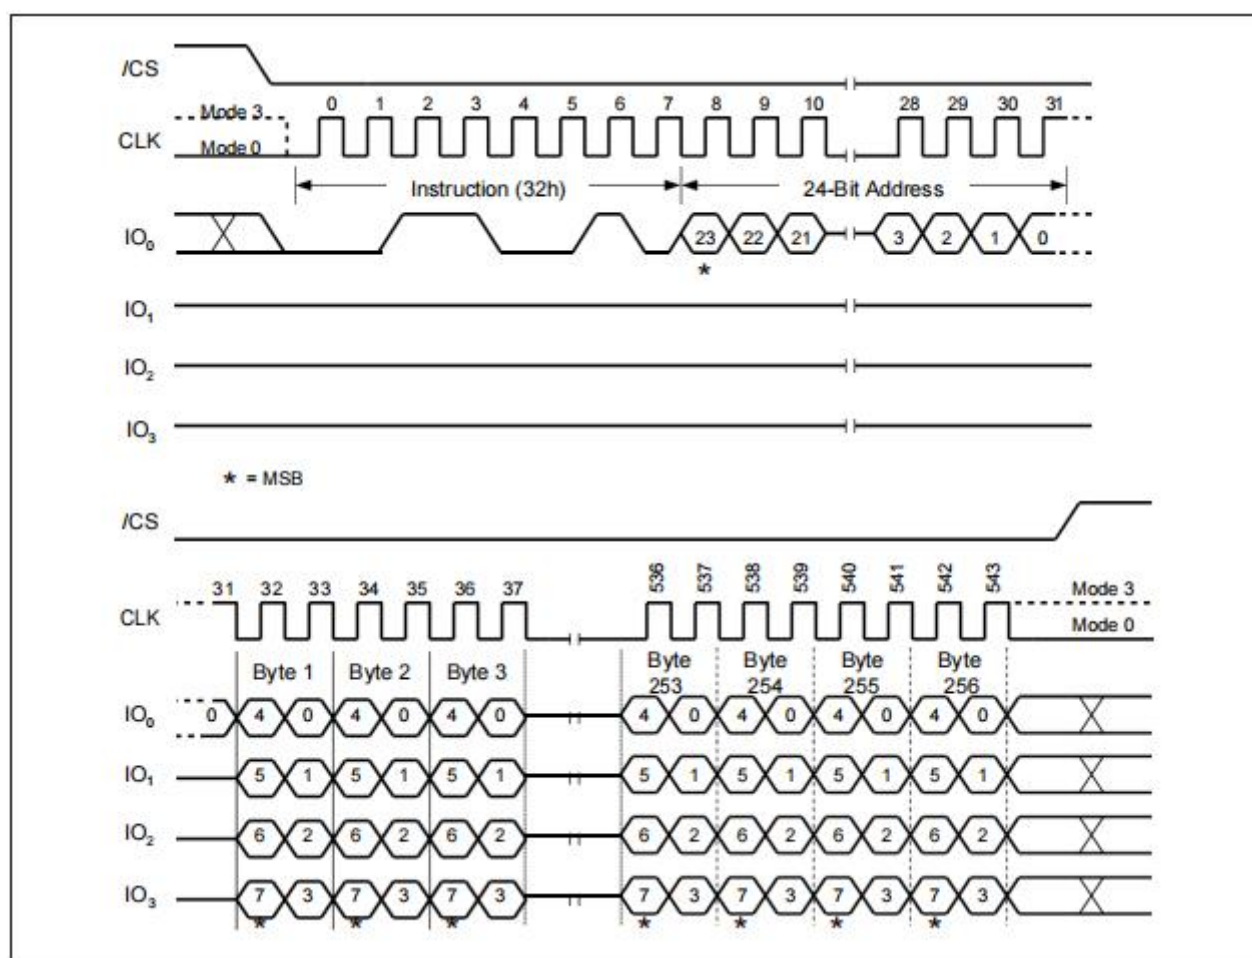

Figure 19. Quad Input Page Program Instruction
To use Quad Page Program the Quad Enable (QE) bit in Status Register-2 must be set to 1. A Write Enable instruction must be executed before the device will accept the Quad Page Program instruction (Status Register-1, WEL=1). The instruction is initiated by driving the /CS pin low then shifting the instruction code "32h" followed by a 24-bit address (A23-A0) and at least one data byte, into the IO pins. The /CS pin must be held low for the entire length of the instruction while data is being sent to the device. All other functions of Quad Page Program are identical to standard Page Program. The Quad Page Program instruction sequence is shown in Figure 19.